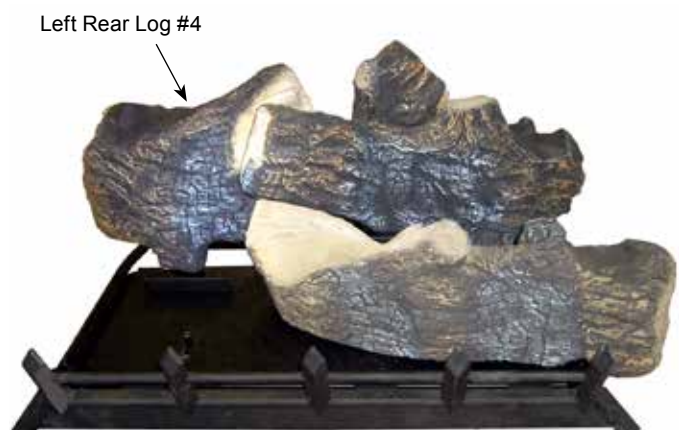

Figure 29 -
4. Place left rear log (#4) on pin located on rear support bracket on left side. *Figure 29*